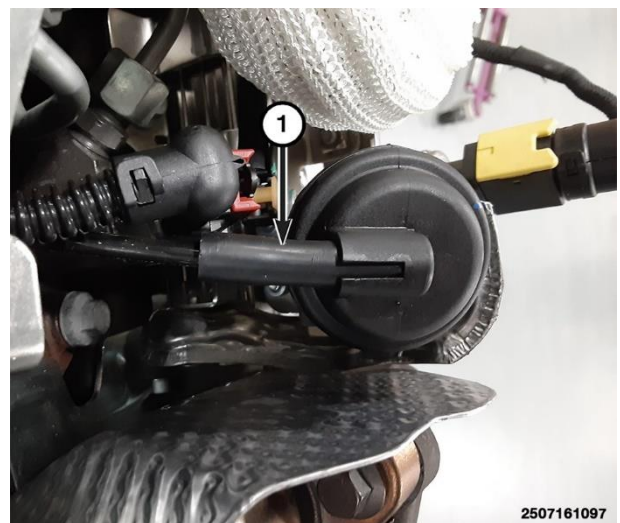

Figure 135 – EGR Cooler Vacuum Bypass Hose
74. Disconnect the EGR cooler vacuum bypass hose (1) (Figure 135).